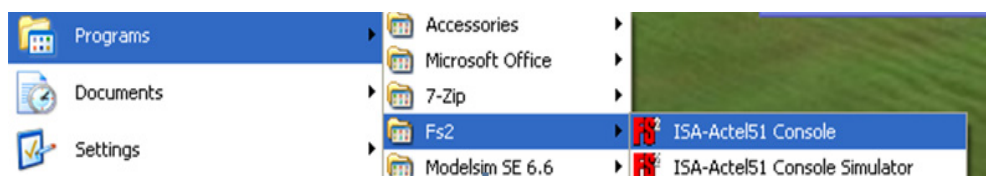

Figure 5 • Launching FS2 ISA-Actel51 Console
Step 3: Open the FS2 ISA-Actel51 Debugger console by selecting **Program > FS2 > ISA-Actel51** console to launch the console, as shown in Figure 5.